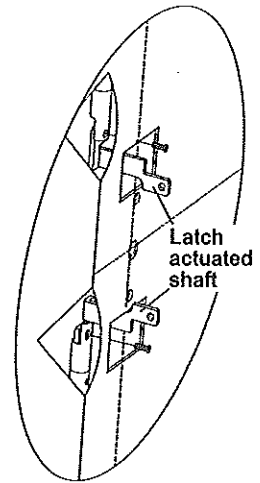

Figure 5
1. Connect Latch Actuated Shafts with Top Shaft Connector and Bottom Shaft Connector one each with supplied screws. (See Figure 5.)